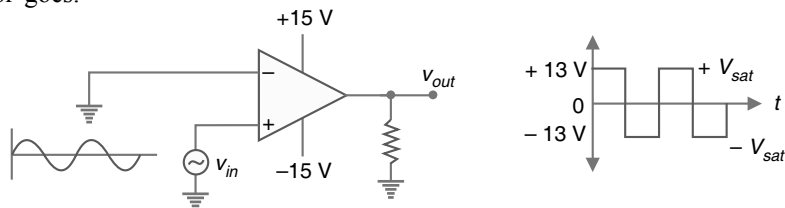

Fig. 23.94
**1. As a square wave generator.** A comparator can be used to produce a square wave output from a sine wave input. Fig. 23.94 shows the circuit of a comparator to produce square wave output. Note that inverting terminal ( $-$ ) is grounded and signal ( $v_{in}$ ) is applied to the noninverting terminal ( $+$ ). Since the gain of a comparator is equal to  $A_{OL}$ , virtually any